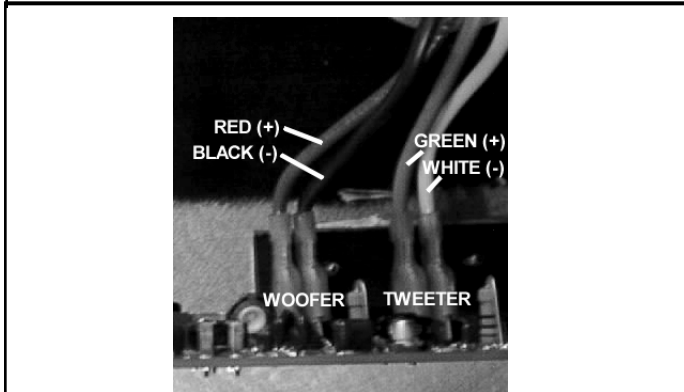

FIG. 7
3. Disconnect PCB mounted tweeter speaker wires (FIG. 7)
4. Disconnect PCB mounted woofer speaker wires (FIG. 7)